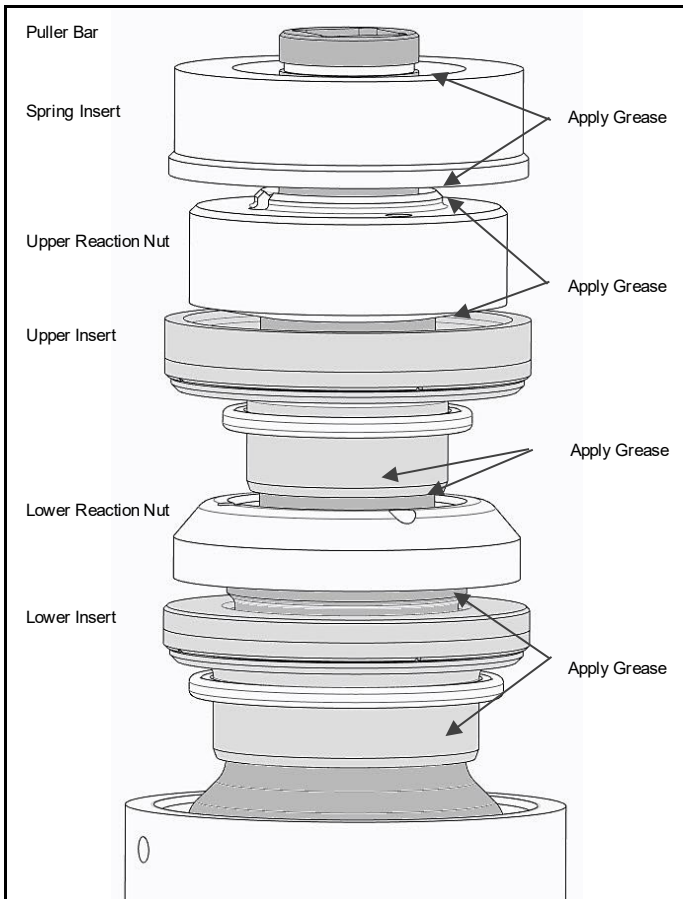

Fig. 4.18 Areas that may require additional lubrication
The main surfaces which are likely to require additional lubrication are those between the puller bar and inserts, those between the inserts and reaction nuts, and those between the upper reaction nut and spring insert. (Fig. 4.18) Follow the hydraulic head assembly dismantlement procedure to gain access to the relevant components and apply a medium coat of suitable grease (as recommended in Section 10.0) to all running surfaces mentioned above. Follow the assembly procedure to re-assemble the tool.
**NOTICE** Figures 4.18 and 4.19 are provided for guidance only. Parts shown may appear slightly different in appearance than the actual parts used on your tensioner.